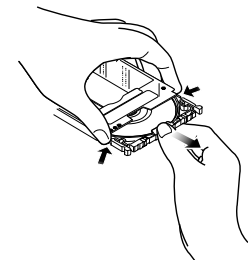

Fig. 6-1c
- 2) While pushing the release levers from both sides inward, hold the center of disc tray and pull it out to the front (see Fig. 6-1c).